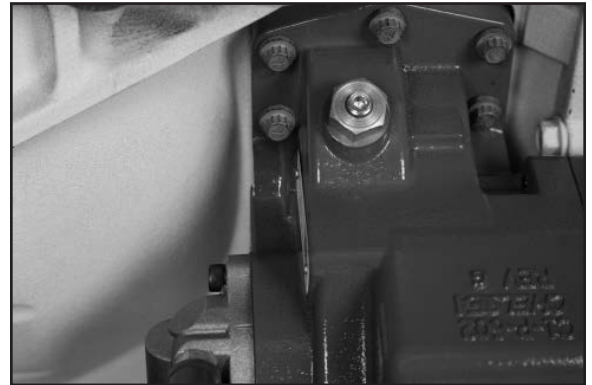

Figure 20
7. Install the remaining cap screws. Torque all to 40-50 lb-ft [54-68 N-m] (**Fig. 20**).